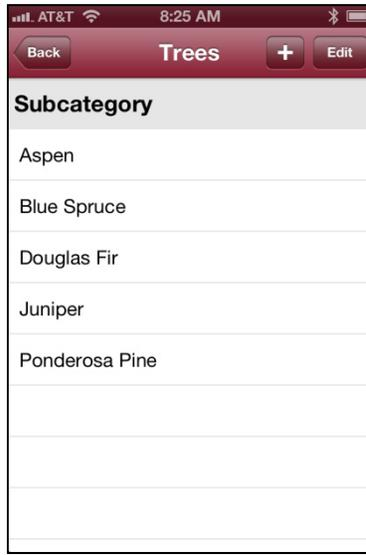

Figure 18
1. Tap a category in the category list to display the accompanying subcategories for editing (Figure (17)).
2. Tap the **Edit** button in the upper right-hand corner of the Subcategory List screen (Figure 18). Minus signs will appear next to each subcategory. In this example, the subcategory "Juniper" is selected for deletion.